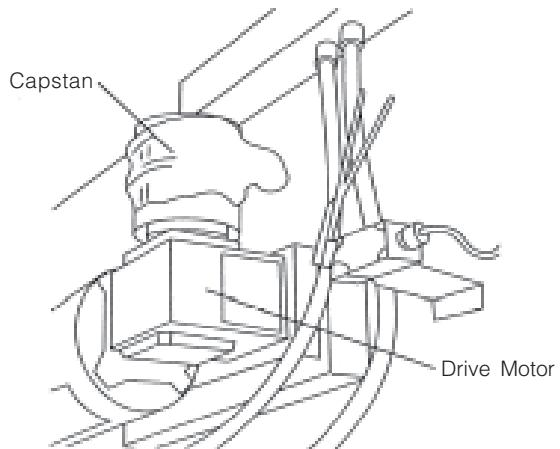

Figure 3-36. Install Drive Motor with Capstan
14. Attach drive motor with capstan to top left corner of cabinet (see Figure 3-36).